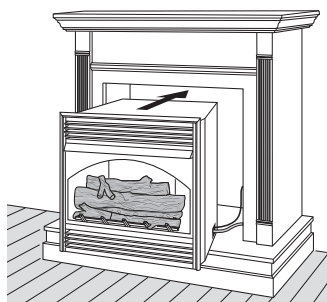

Figure 13 - Inserting Firebox Into Cabinet Mantel (Model May Vary From Illustration)
7. Carefully insert firebox into cabinet mantel. Be careful not to scratch firebox, mantel, base, etc. when installing (see Figure 13).